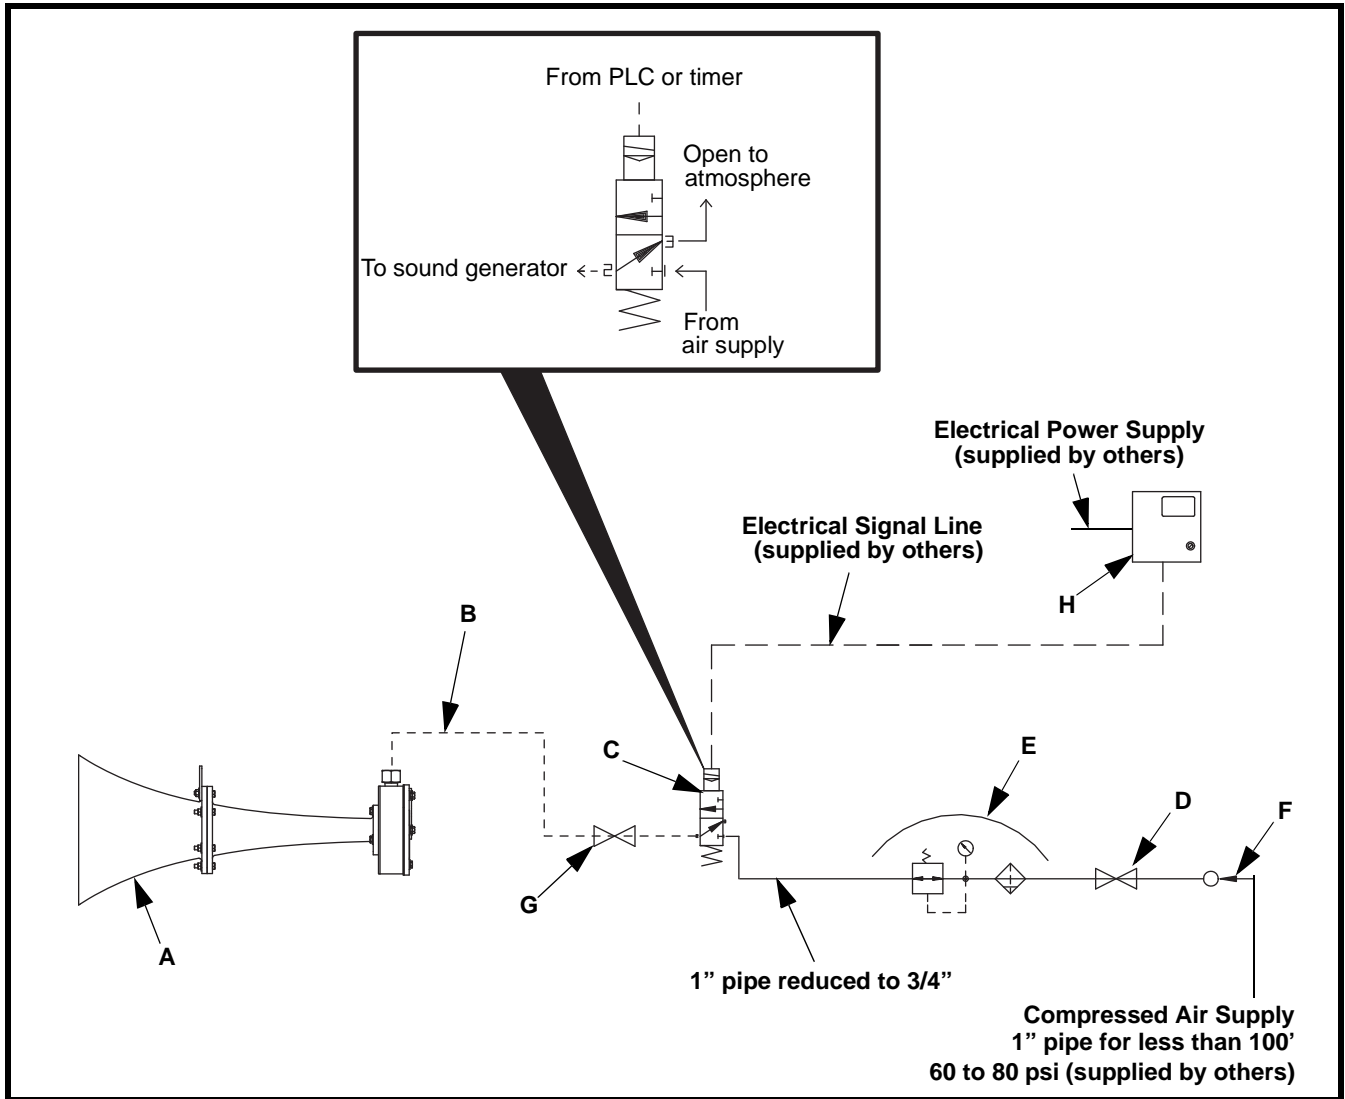

Figure 4. Plumbing Detail for Normally-Closed Solenoid Valve
2. See Figure 4. Connect 1" lockout ball valve to compressed air source with desired length of 1" pipe. Look at arrow on side of ball valve to make sure flow is correct.
5. Connect 3-way electrical solenoid valve to 1" to 3/4" reducer with 6" long 3/4" pipe nipple. See Figure 4 for solenoid connections.